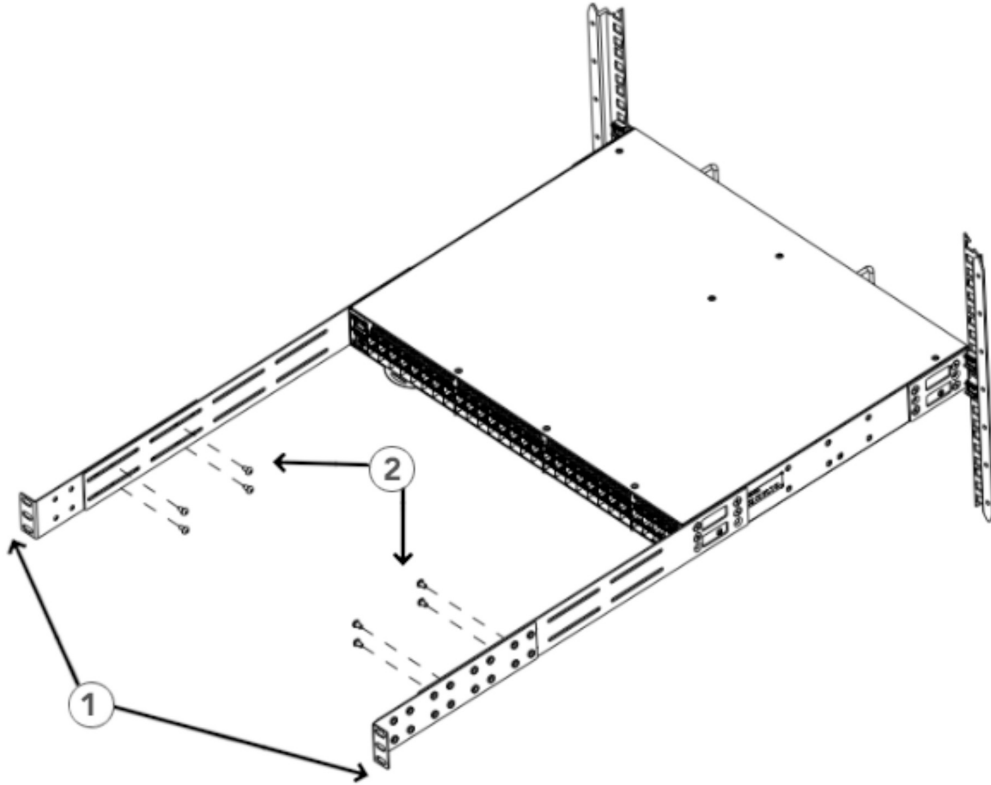

Figure 13. Attaching the rear brackets to the extensions at the front of the device
2. Slide the right rear bracket onto the right extension, as shown in Figure 13 on page 23.